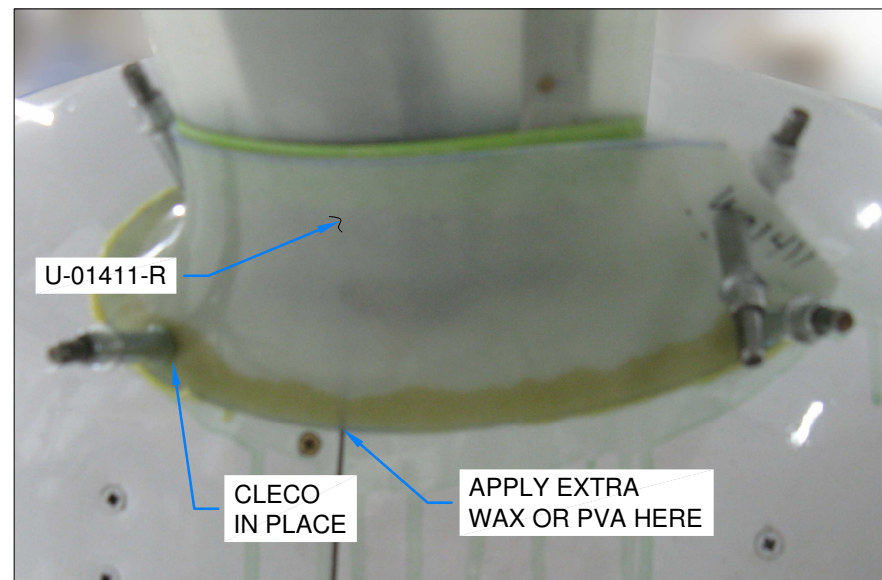

FIGURE 2: LOWER INTERSECTION FAIRING IN POSITION
Step 3: Install the lower intersection fairings on the gear legs, cleco the trailing edges, and attach with clecos that have been dipped in release wax. Leave in position until fully cured. See Figure 2.